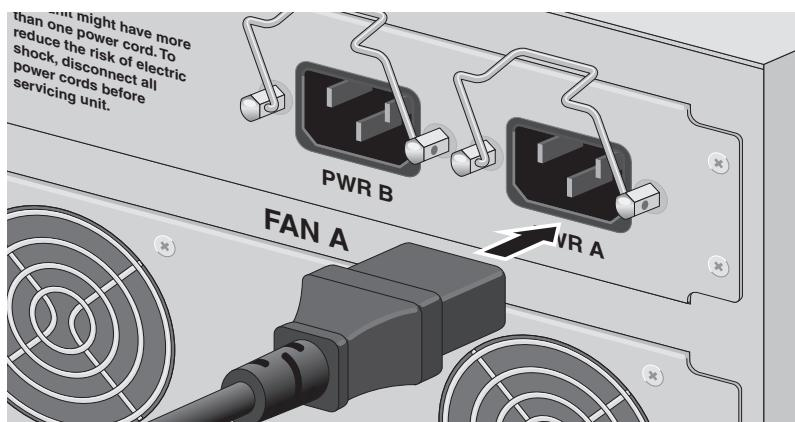

Figure 51 Securing an AC power cord
1. Connect the AC power cord to the PWR A power connector on the back panel of the chassis. See Figure 51.